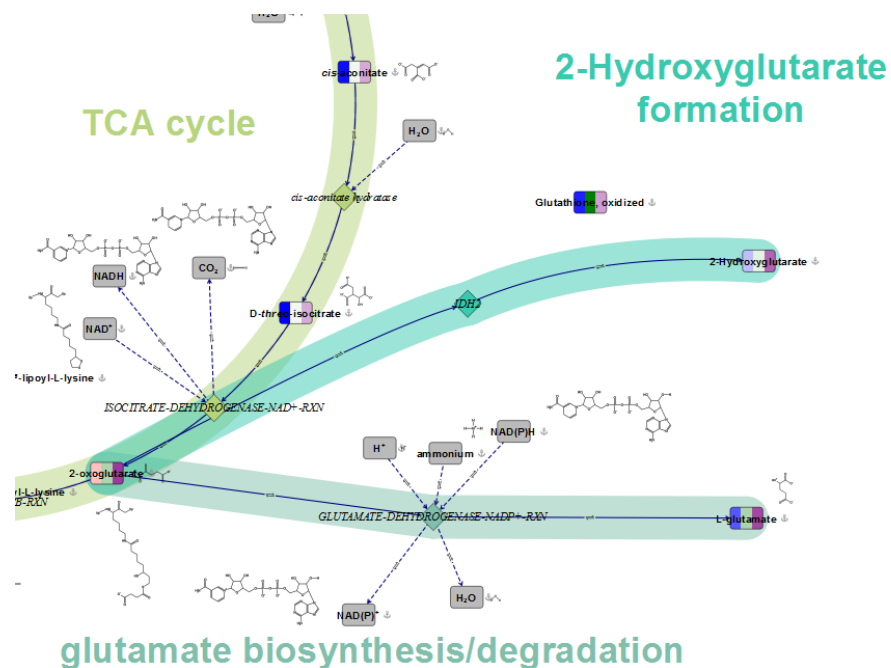

Figure 128 Zoom Drawing Area with three abundance changes and chemical structures visualization
- b Review and adjust the positions of the elements of your network diagram in the *Drawing Area* (Figure 128 on page 116).